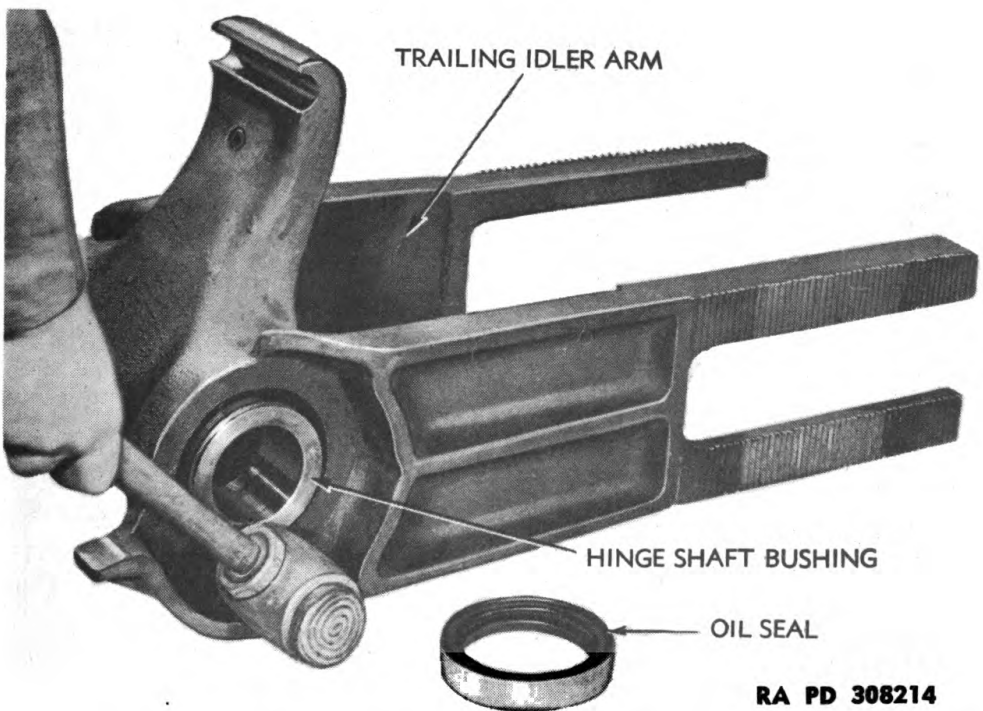

Figure 112 — Installing Trailing Idler Arm Bushing
b. **Trailing Idler Arm.** The trailing idler arm (yoke) pivots on a hinge shaft on two steel wear bushings located in arm. Spring-loaded oil seals in arm prevent loss of lubricant and entrance of dirt or water. Wear or damage to the bushings necessitates the replacement of both bushings and oil seals. The bushings have a press fit in the arm and must be driven out and the new one driven or pressed into place (fig. 112). No reaming is required after installation. After bushings have been installed, press a new oil seal into each side of arm with lip of seal in outer side facing bushing. The lip of seal must be placed in inner side of arm facing away from bushing. This